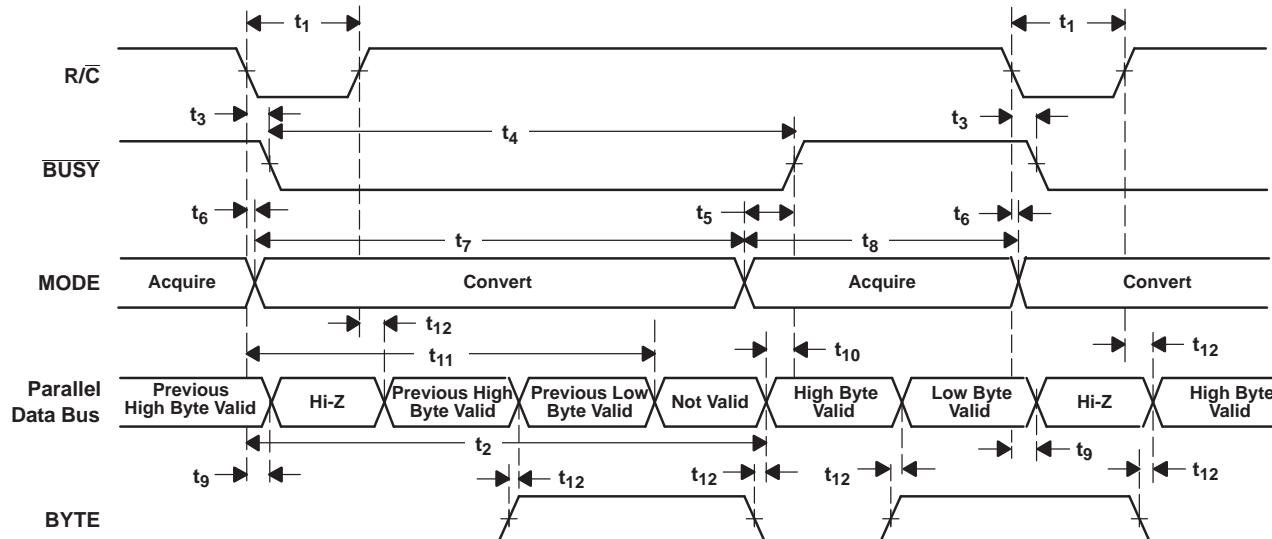
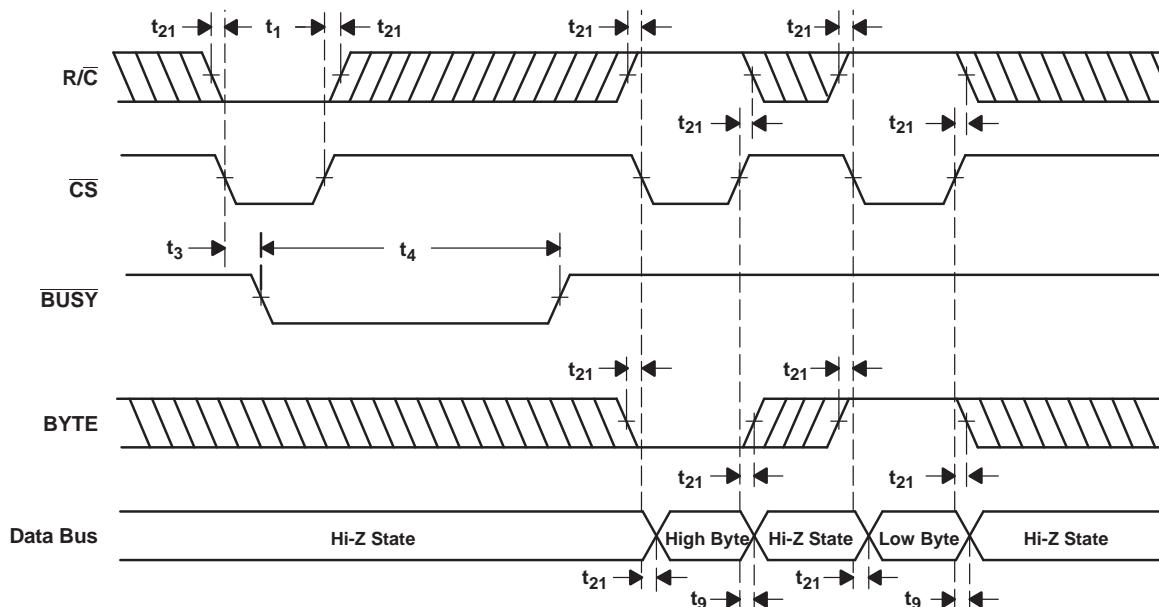

Figure 30. Conversion Timing With Parallel Output (CS and DATACLK Tied Low, EXT/INT Tied High)
Figure 31. CS to Control Conversion and Read Timing With Parallel Outputs
The ADS8517 begins tracking the input signal at the end of the conversion. Allowing 5 μ s between convert commands assures accurate acquisition of a new signal. Refer to Table 2 and Table 3 for a summary of \overline{CS} , $\overline{R/C}$, and \overline{BUSY} states, and Figure 30 through Figure 36 for timing diagrams.
(1) See Figure 30 and Figure 31 for constraints on data valid from conversion $N-1$.
After conversion N is completed and the output registers have been updated, **BUSY** (pin 24) goes high. Valid data from conversion N are available on D7-D0 (pin 9-13 and 15-17). **BUSY** going high can be used to latch the data. Refer to Table 5, Figure 30, and Figure 31 for timing specifications.
After conversion N has been initiated, valid data from conversion $N-1$ can be read and are valid up to 2.2 μ s after the start of conversion N . Do not attempt to read data beyond 2.2 μ s after the start of conversion N until **BUSY** (pin 24) goes high; doing so may result in reading invalid data. Refer to Table 5, Figure 30, and Figure 31 for timing constraints.